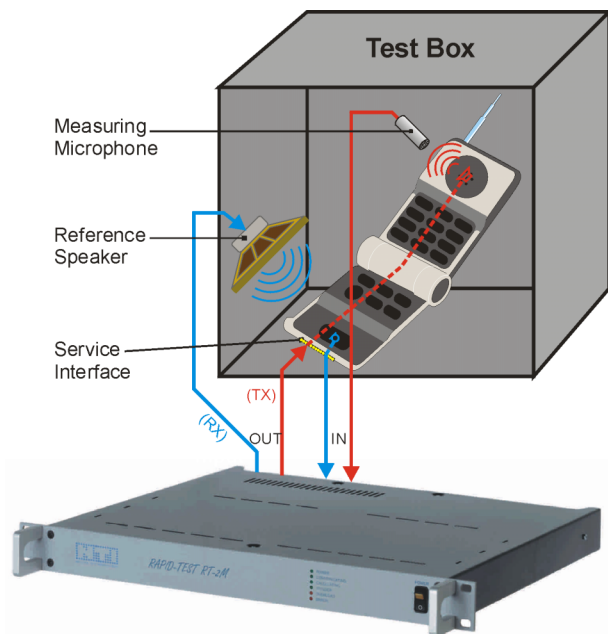

Fig. 3 Final audio test
The test investigates the audio quality of the transmit (TX) path, i.e. the user's speech and the receive (RX) path, i.e. replay quality. For this purpose the service interface, the microphone and the transducer of the mobile phone must be linked as shown in *Fig. 3*.